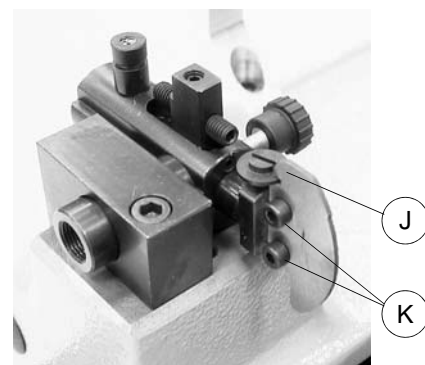

Fig. 12
As for depth gauging. The cutter must skim the gauge evenly, independently of the point of contact with the tracer point.(in the centre, at the top, at the bottom). If this is not so, loosen the screws (K) and adjust screw (J) until ideal gauging is achieved (fig.12).